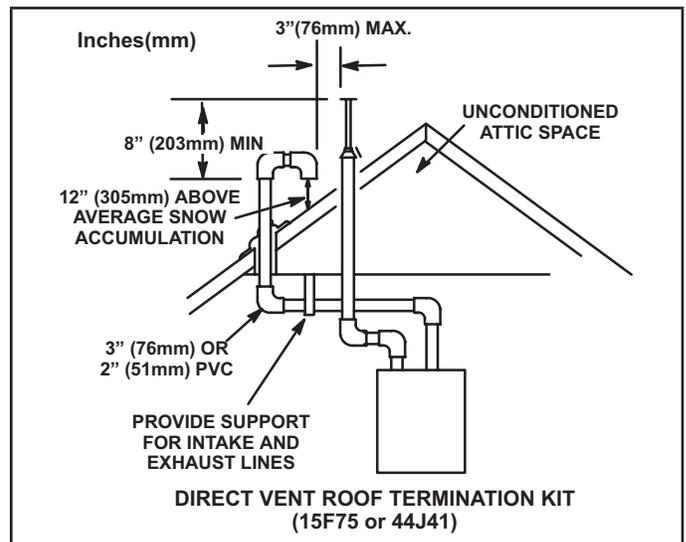
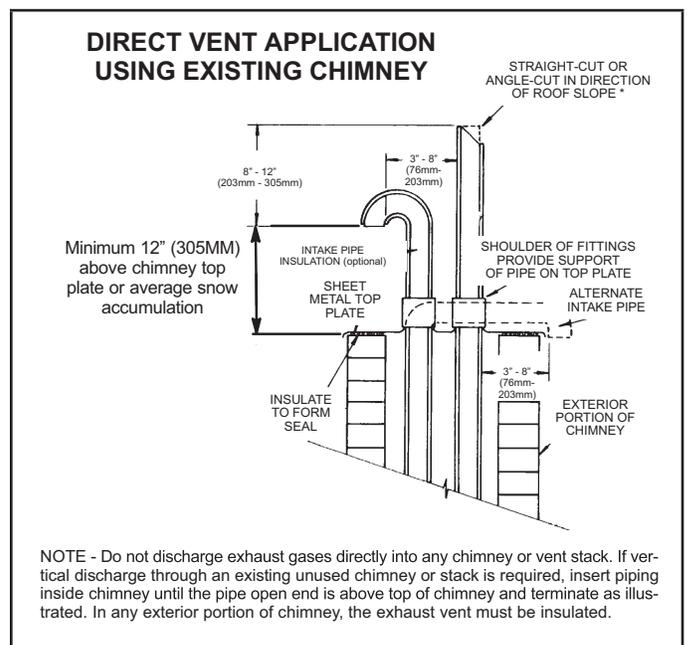

FIGURE 34
FIGURE 42
Intake and exhaust pipes may be routed either horizontally through an outside wall or vertically through the roof. In attic or closet installations, vertical termination through the roof is preferred. FIGURE 34 through FIGURE 42 shows typical terminations.
- 3 - On roof terminations, the intake piping should terminate straight down using two 90° elbows (FIGURE 34).